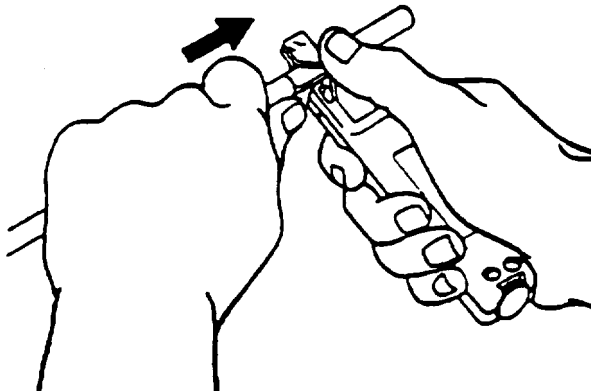

Figure 12. Swivel Blade Tool, Axial Cut
c. Place thumb firmly on back of the guide to prevent blade from riding out of jacket. Rotate cable slightly and pull tool toward the end of the cable (see Figure 12).